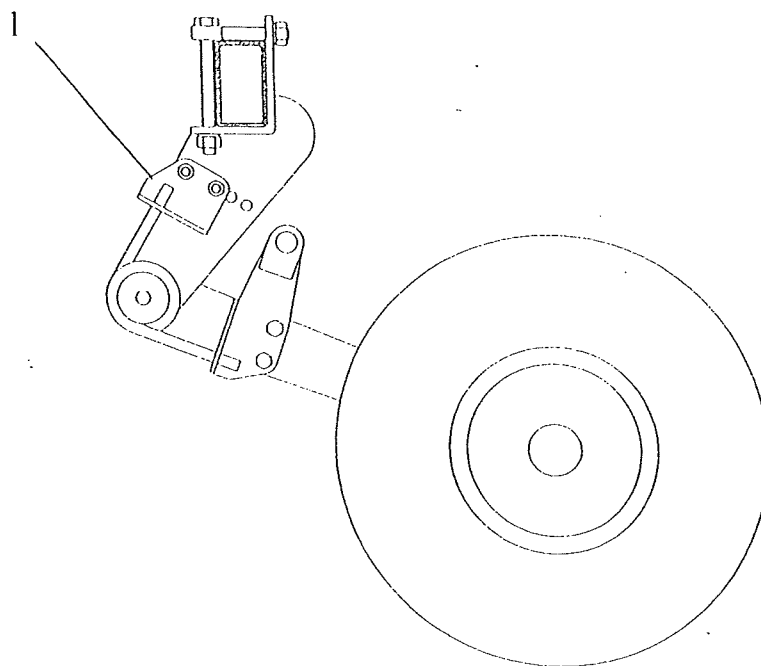

Fig 6.9
The depth wheels have a torsion spring mounted in their pivot to provide downward pressure. This spring can be adjusted to increase or decrease the amount of pressure on the depth wheel. The spring retention bracket is mounted onto the depth wheel frame and has a number of positions. By removing the mounting bolts, in the spring retention bracket, and locating the bracket in a forward, or rearward position, spring pressure can be altered (fig 6.9 item 1).